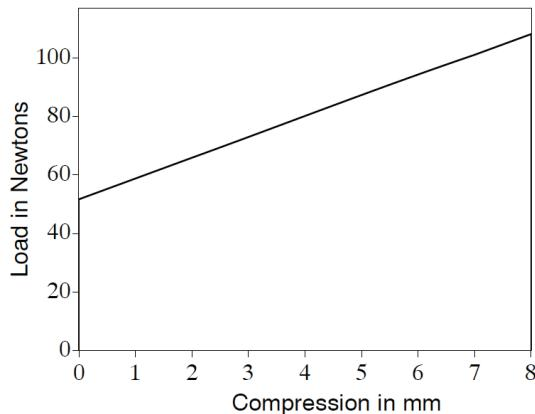

Figure 13 Pressure as a function of the spring height of the clamp
1. Read the scale on the pressure pad and use Figure 13 to calculate the approximate pressure being applied.